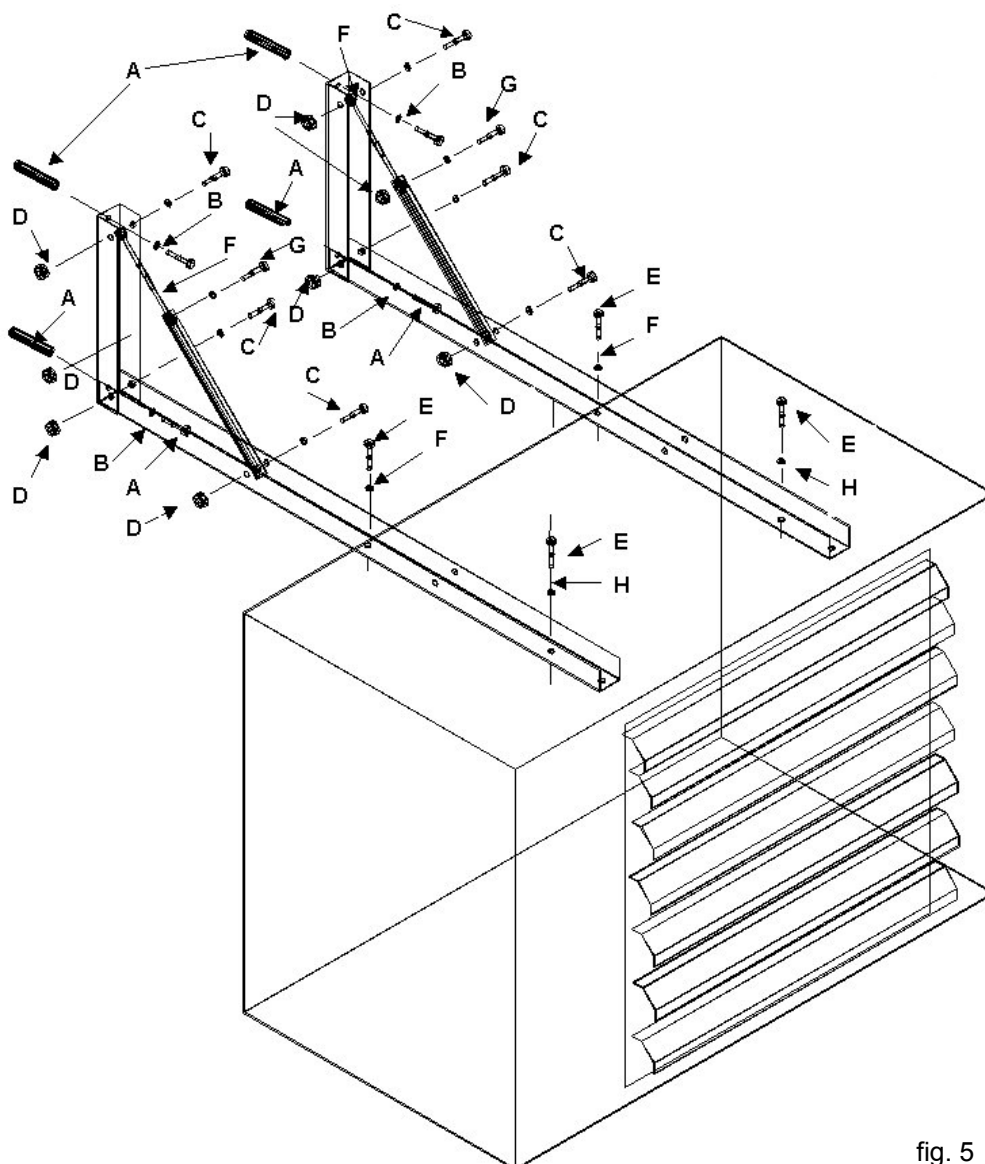

fig. 5
- ✓ Assemble the brackets' various component elements using the screws supplied as illustrated in fig. 5.
Fig. 5 illustrates the brackets' assembly and how to secure the heater correctly to said brackets.